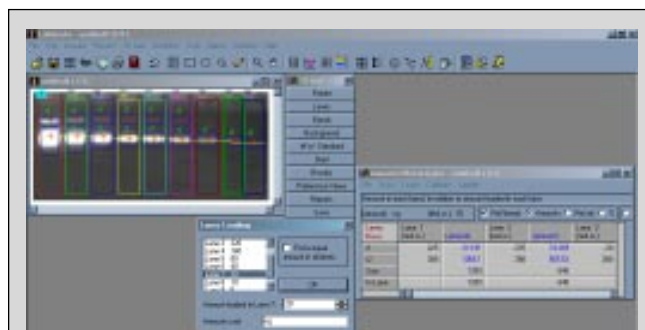

Fig. 6. Lane Loading
- In order to correctly separate and identify the bands of interest, select the Loads button from the results table menu (Fig. 6). Enter the amount of known sample for each lane. Click OK.